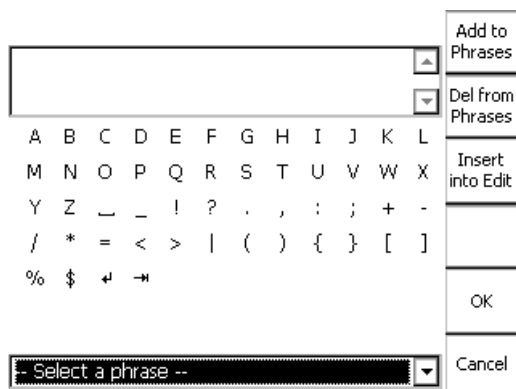

Figure 7-1: CPC String Editor with focus on "Select a phrase"
- ▶ Once the template phrase of your choice is highlighted, press **Insert into Edit**. The phrase is then automatically inserted into the upper entry field at the cursor position (refer to Figure 7-1).